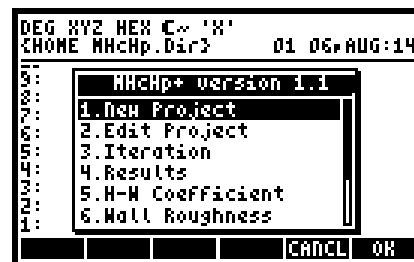

Figure 4.5
It is used arrow keys to access the item to select. In this case, it is selected item 1.New Project as it is shown in figure 4.5.